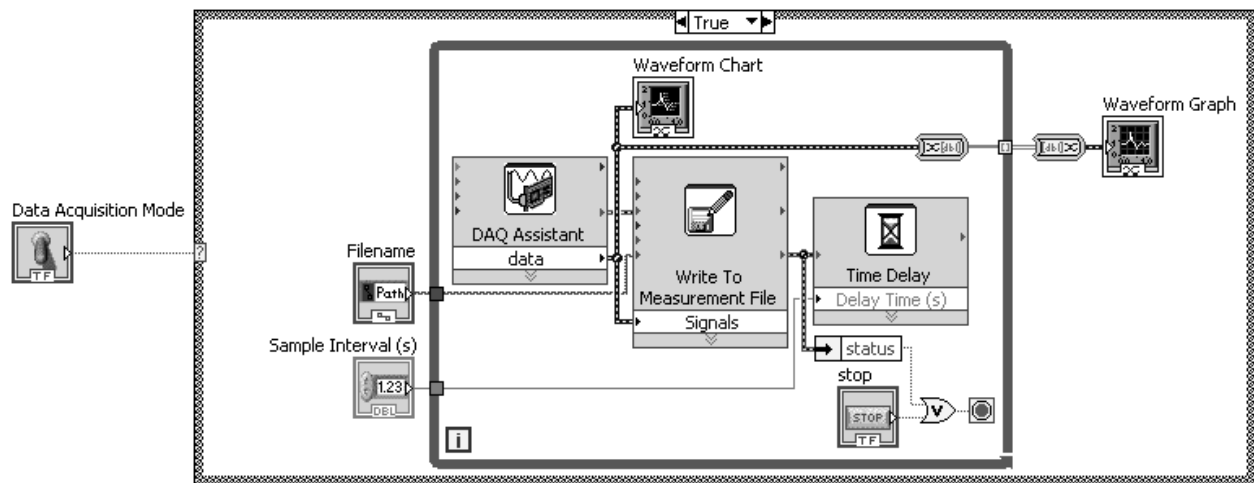

Figure 1.4.1 The general analog input VI showing the option to measure data continuously
4. Develop the software-timed analog input VI shown in Figs. 1.4.1 and 1.4.2, which can acquire either a finite set of measurements or acquire measurements continuously until stopped by the user.
The general analog input VI that is to be developed in this problem is designed to allow the user to select finite or continuous measurement of data. For this VI, the user will provide input through the front panel to select a measurement case for data acquisition: either continuous or finite. A Case Structure (represented by the outermost border in Figs. 1.4.1 and 1.4.2) will be used to determine what case will be executed. When the data acquisition mode is set to “True,” data is taken continuously. Likewise, when the data acquisition mode is set to “False,” a finite set of data is taken. Two cases (True and False) of the same Case Structure are shown in Figs. 1.4.1 and 1.4.2.
4. Resize the Case Structure to be large enough to contain the functions, structures, and VIs shown in Figs. 1.4.1 and 1.4.2.
Note: The user was not asked to choose a file to avoid the potential of delaying data acquisition. Based on the execution of the block diagram in Fig. 1.4.1, the Write to Measurement File Express VI executes after the measurement task is created and samples are taken. If the user was asked to choose a file, the execution of the program would be suspended until a filename was provided by the user. Potential measurements could be missed if the physical event occurred quickly.
19. Click on the filename input terminal with the “Position” (arrow) cursor and drag the terminal near the left border of the Case Structure, as shown in Fig. 1.4.1, so that it will be outside of the inner loop.